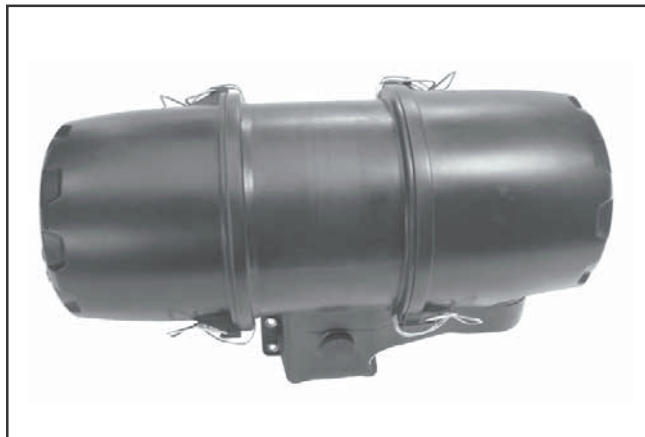

Figure 19. Heavy-Duty Style Air Cleaner.
These engines use a heavy-duty style air cleaner shown in Figure 19, consisting of a cylindrical housing mounted to the carburetor and intake manifold. The air cleaner housing contains a paper element and inner element, designed for longer service intervals. The system is CARB/EPA certified and the components should not be altered or modified in any way.
7. Reinstall the end caps and secure with the retaining clips. See Figure 19.